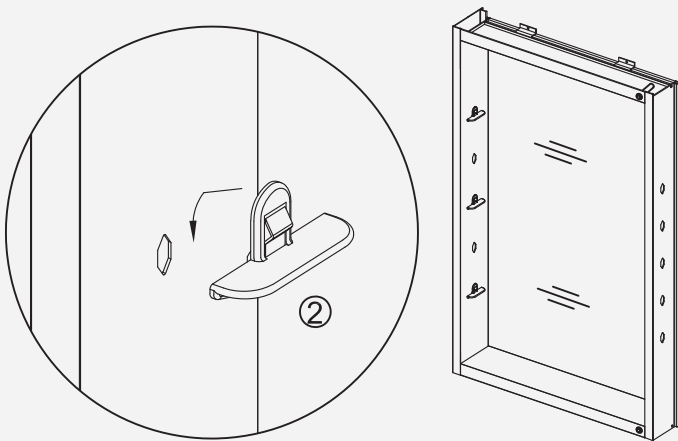

Fig 16
1. Insert clear shelf clip ② into appropriate hole location using 2 clips per shelf (Fig 16).